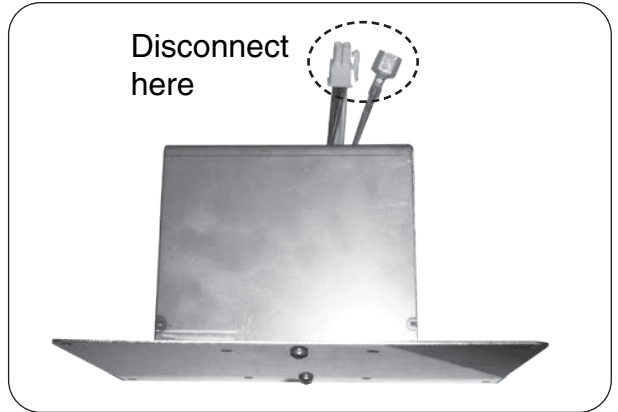

Fig. 42-2 Disconnect wire harness and groundwire (and power cord)
3. Disconnect the power supply cord. Then disconnect the wire harness and ground wire (see Fig. 42-2). Completely remove the box from the enclosure for ease of fuse replacement.